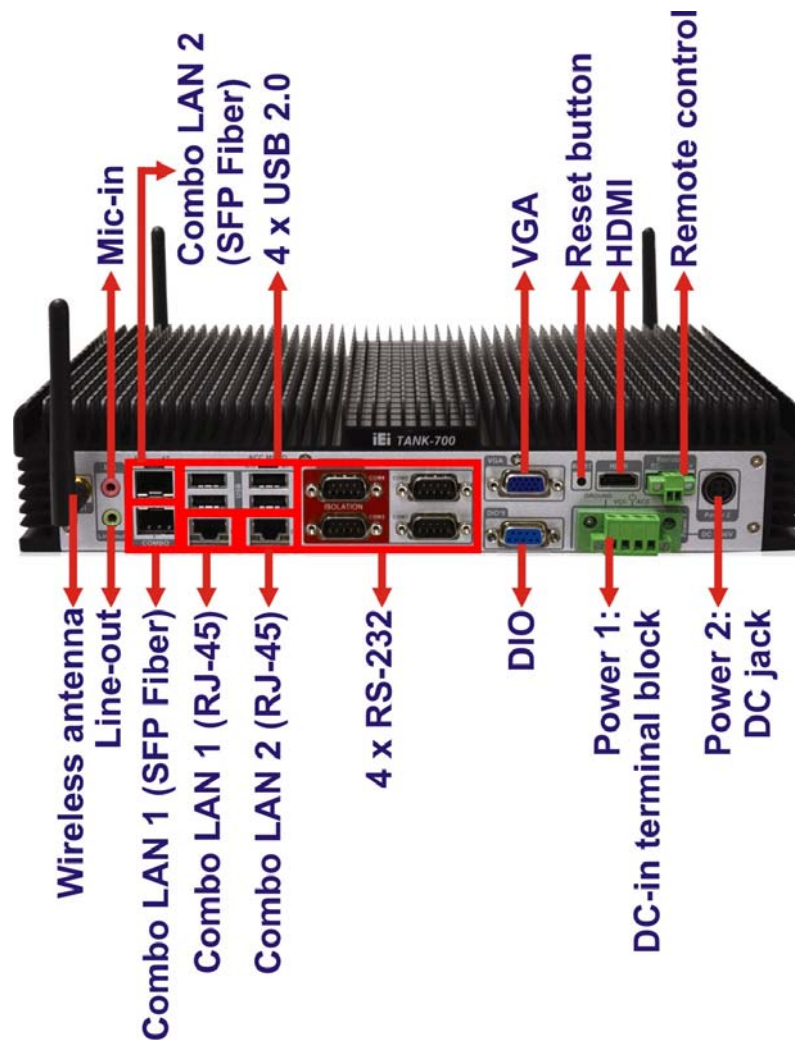

Figure 1-3: TANK-700 Rear Panel
An overview of the rear panel is shown in **Figure 1-3** below.
- Step 1:** Locate the DC-in terminal block connector. The location of the connector is shown in Figure 1-3.